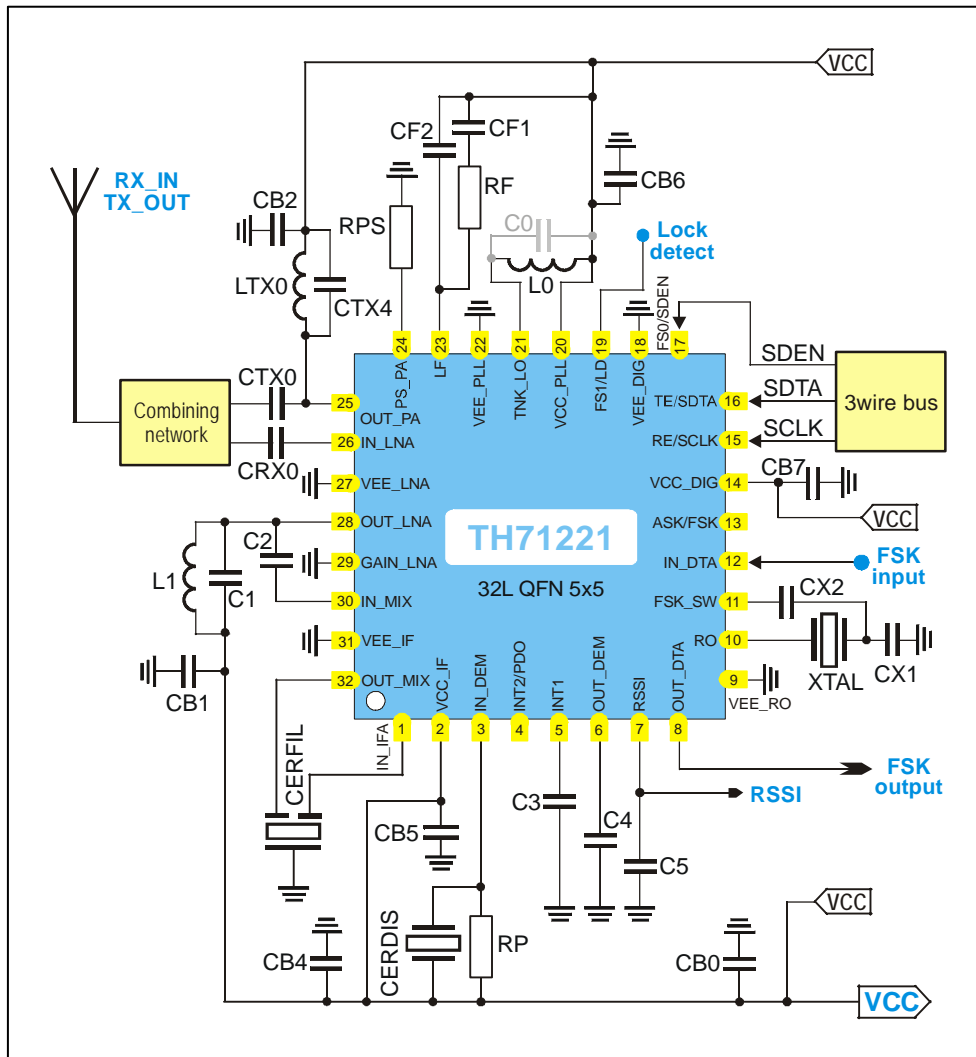
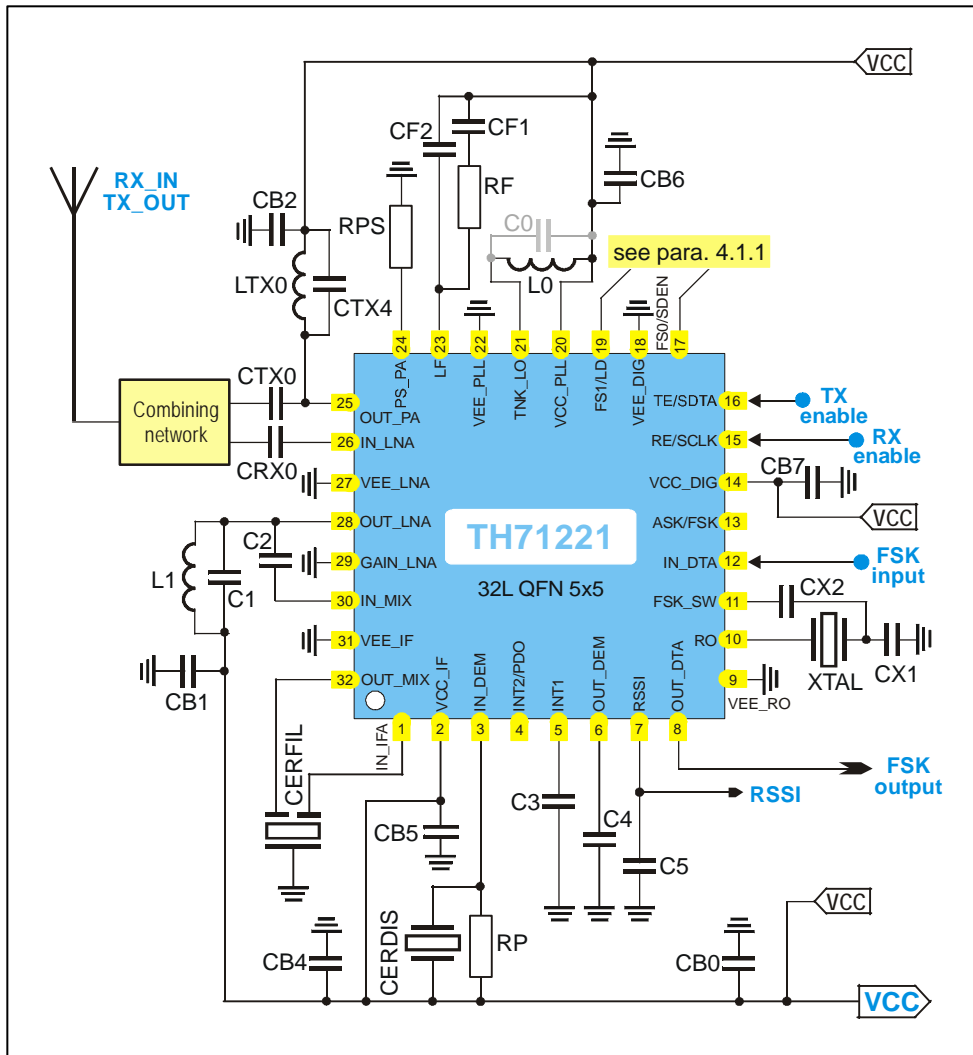
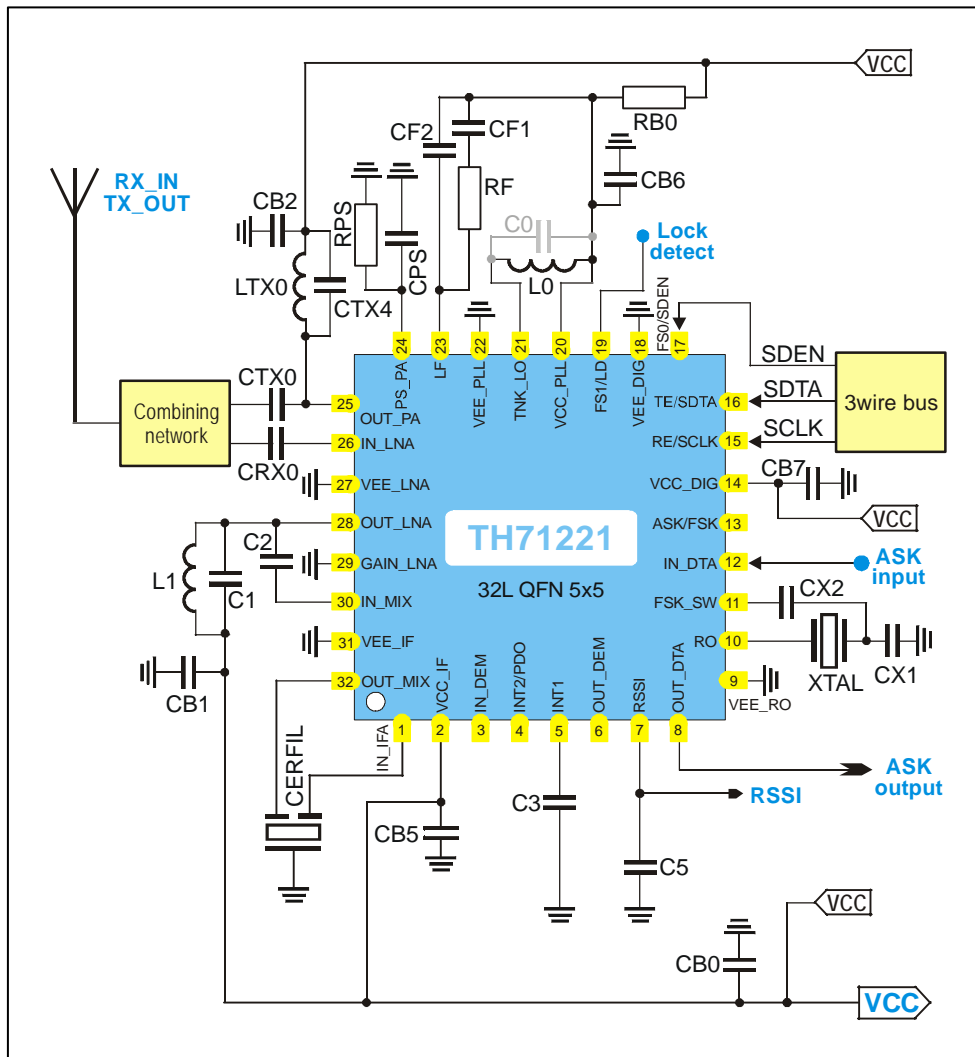

Fig. 14: Test circuit for FSK operation in Programmable User Mode
Fig. 15: Test circuit for FSK operation in Stand-alone User Mode
Fig. 16: Test circuit for ASK operation in Programmable User Mode
all parameters under normal operating conditions, unless otherwise stated; all parameters based on test circuits for FSK (Fig. 14 to 15) and ASK (Fig. 16 to 17), respectively;
all parameters based on test circuits for FSK (Fig. 14 to 15) and ASK (Fig. 16 to 17), respectively;
7.3 FSK Test Circuit Component List (Fig. 14 and Fig. 15)
7.5 ASK Test Circuit Component List (Fig. 16)